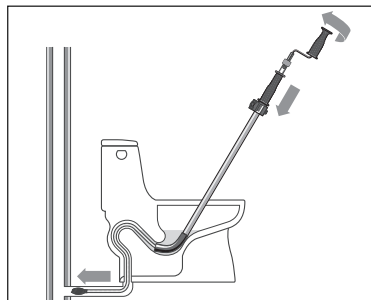

Figure 6 – Operating the Auger
7. Rotate the cable in the Forward (clockwise) direction while pushing the crank handle or drill toward the guide tube to advance the cable into the drain (Figure 6). To negotiate traps and other tight bends: